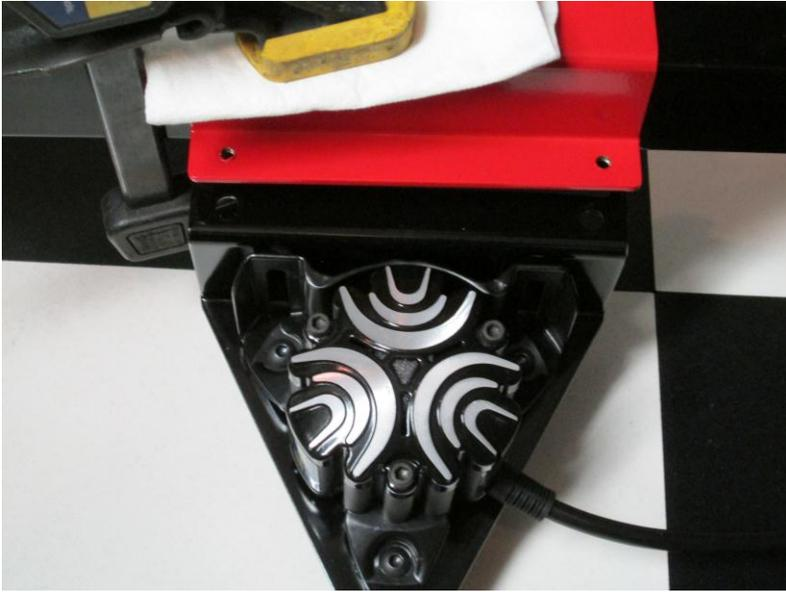

Figure 5
**First step is to unplug both actuators from the SX-3000 (making sure the cables are free and pulled up and out of the way) Then remove the two 5/16 x 1 ½" screws that bolt the rear dampening bar to the rubber vibration mounts (See figure 5&6 in the seat base assembly manual)**
Next using a quick clamp and a rag or paper towel so you don't scratch the painted surfaces clamp the two brackets together. This will allow you to start one screw at a time from the bottom side moving the quick clamp from one side then to the other as shown in figure 5